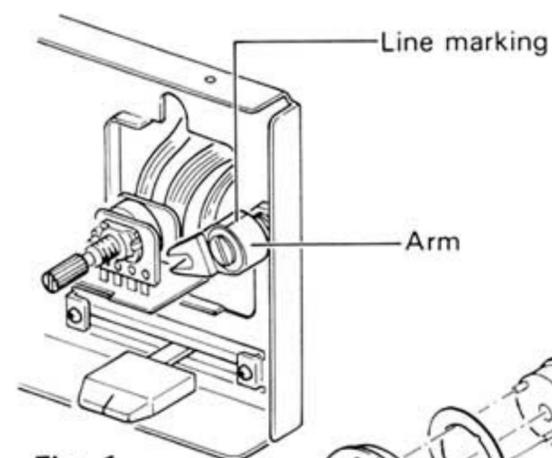

Fig. 1
■ Precautions when Installing the Arm (Fig. 1)